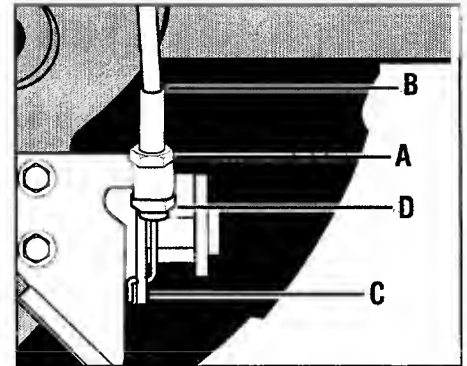

Figure 5-5: Wheel gear cable assembly.
2. Loosen the top adjustment nut (A, Figure 5-5) on the wheel gear cable bracket that is located on the left side rear of the transmission.
3. Push the wheel gear cable (B) down and roll the tiller slightly forward or backward until the eccentric lever (C) engages (locks) the wheels. Hold the cable in that position and tighten the top (A) and bottom (D) adjustment nuts.